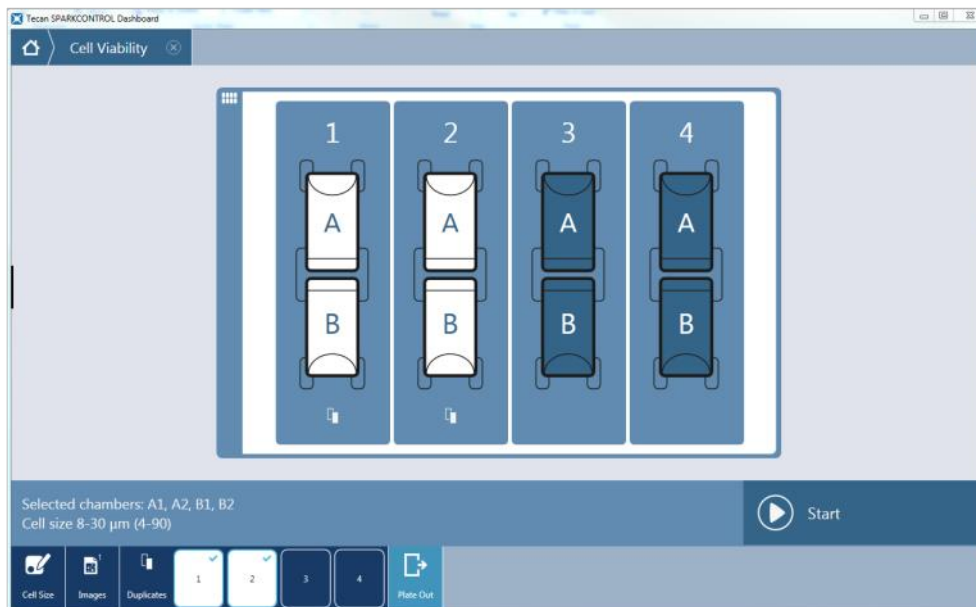

Figure 74: Cell Viability start window
1. Select the **Cell Viability** application tile and the start window appears (Figure 74: Cell Viability start window).